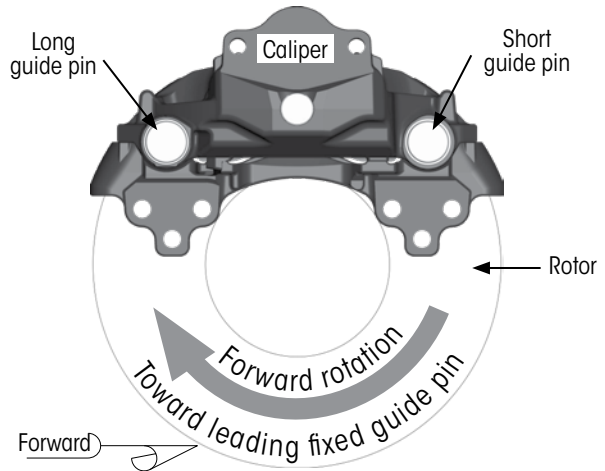
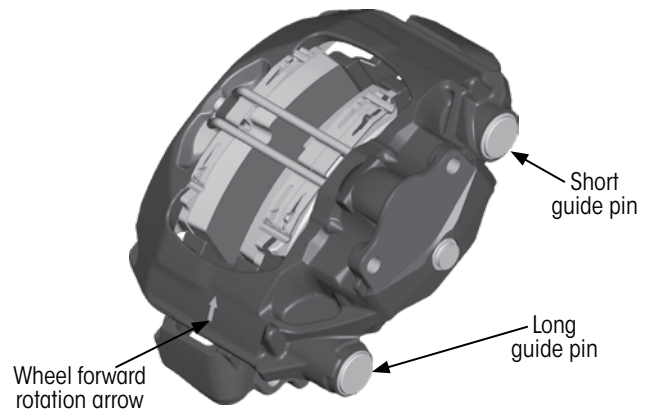

Figure 17: ADB LH & RH orientation (LH shown)
Figure 18: Rotor rotation when vehicle is moving forward
Some disc brakes are designed for left (LH) and right (RH) hand orientation to the suspension and trailer. From the driver's seat, LH means the left side or road side of the vehicle. RH indicates the vehicle's right or curbside. Calipers are installed in pairs on the axle in a fixed guide pin leading orientation (Figure 17). Some brake caliper brands have "direction of rotation" arrows painted on or cast into the caliper. These arrows point in the direction of rotor rotation as the vehicle is moving forward (Figure 18).